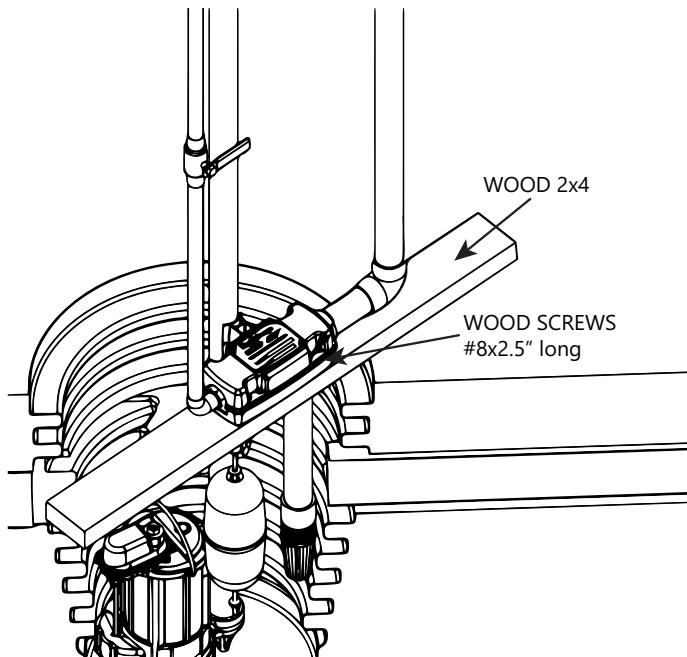

Figure 3. Alternate SumpJet Installation
10. If the SumpJet cannot be mounted to the primary sump pump discharge pipe, a piece of wood may be used to mount the SumpJet. Cut holes as per Figure 4. There are four screw holes to fasten the SumpJet to the wood. Use #8 x 2.5" long wood screws. Refer to Figure 3.